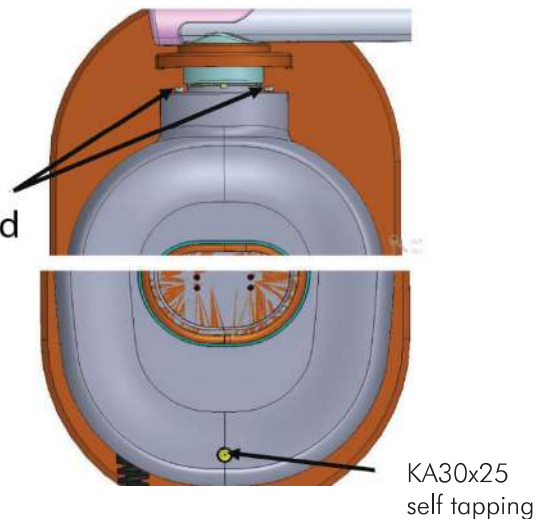

Figure 76
- Fix the base unit cover with two M3x6 socket head cap screws and M3 plain washers on top using 2.5mm allen key and one KA30x25 self tapping screw at bottom using phillips screw driver as shown in Figure 76 . Put back the rubber caps on top and bottom at the screw locations.